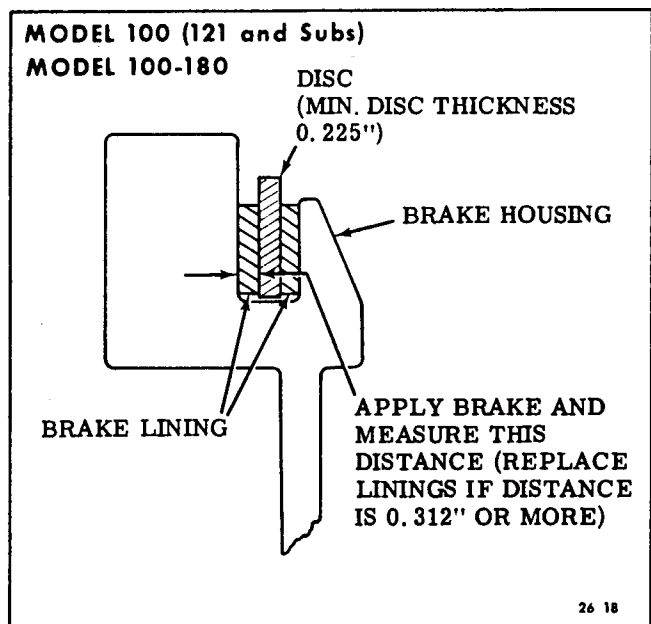

Figure 6-7. Brake Lining Wear
The main landing gear wheels are equipped with hydraulic brakes. A hydraulic fluid reservoir is installed on the left forward side of the engine firewall. On the Model 100 Darter hydraulic fluid is supplied from the reservoir to a brake master cylinder, which is secured to the fuselage frame forward of the instrument panel. On the Model 100-180 Lark hydraulic fluid is supplied to two individual master cylinders, which are installed forward of the pilots rudder-brake pedals. The brake master cylinder on the Model 100 Darter is linked to the brake handle by a push-pull tube. The brake handle, which extends aft from below the instrument panel just to the right of aircraft centerline, is positioned by a brake handle pivot bracket supported to the aircraft frame by a mounting secured to the aircraft frame. When the brake handle is pulled aft the piston of the brake master cylinder moves forward, forcing brake fluid to each individual wheel brake cylinder. On Model 100 Darter serial number 051 through 120 the wheel brake cylinders expand and move the brake shoes out against the brake drum to provide the braking force. On Model 100 Darter serial number 121 and subsequent the wheel brake cylinders move a piston lining against a brake disc to provide the braking force (see Figure 6-7).
- b. Measure distance between rotating disc and flat surface of brake housing near center of disc face as shown in Figure 6-7.